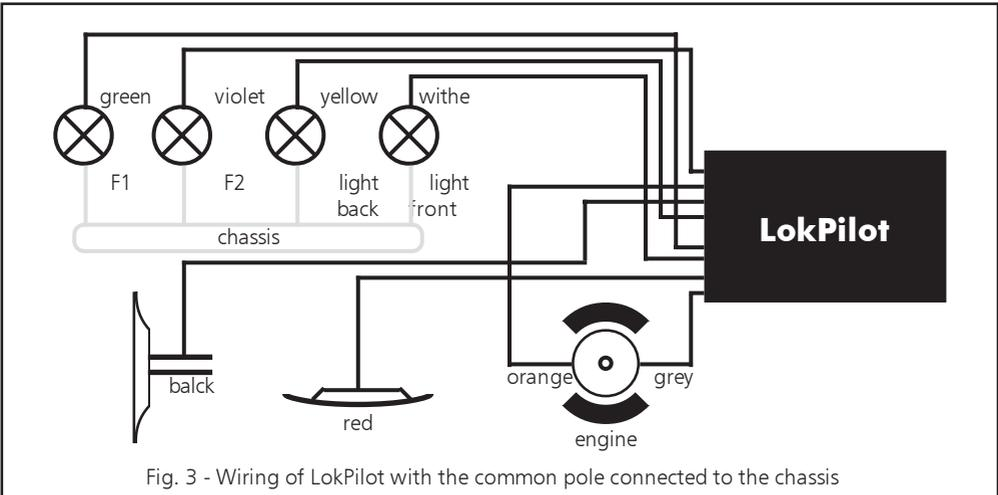

Fig. 3 - Wiring of LokPilot with the common pole connected to the chassis
b) Directional headlights and functions may be connected with their common to the track voltage (e.g. almost all Maerklin® -locomotives and older Fleischmann or ROCO locomotives are wired like that) as per figure 3.
Locomotives that are connected as shown in figure 3 need an analogue smoke generator e.g. Seuthe No. 10.